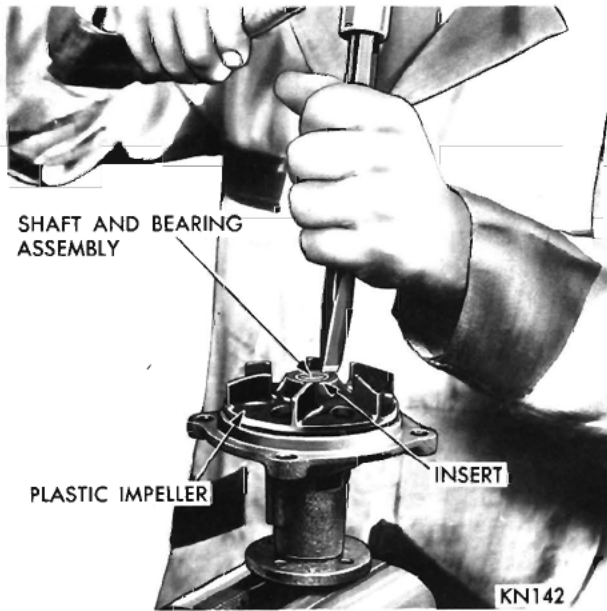

Fig. 7—Removing Plastic Impeller and Metal Insert
(2) Support the pump on the hub end and remove the plastic impeller by breaking it away from the metal insert (Fig. 7).
(3) Split the sintered metal insert of the plastic impeller with a chisel and hammer.
(4) Remove the rubber portion of the shaft seal and the spring.
(5) Using Tool C-3753, remove the seal retainer from the housing.
(6) Support the body on the front face (fan hub end) and apply pressure to the rear end of the shaft to press out the shaft and bearing assembly through